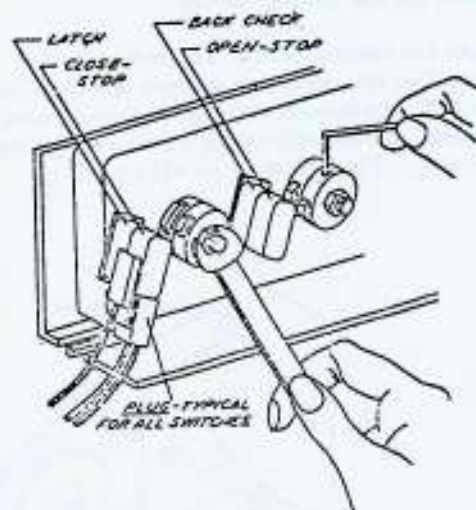

FIG. 28 Cam positioning (rotating).
The rotating cams, located in the timing device assembly (see FIG. 28) actuate the micro-switches that induce current to the opening and closing circuitry. The "LATCH" and "BACK CHECK" cams are factory set for optimum conditions with the weights and widths of the doors taken into consideration. A considerable variation from the optimum may necessitate re-adjustment of these cams. The "OPEN" and "CLOSE" cams, however, must be set during the installation of the door system.
**NOTE:** The timing device, shown in FIG. 28, is for a left handed door installation. For a right handed door installation the cams are assembled on the opposite shafts. Also, the directions of the right hand door positions are